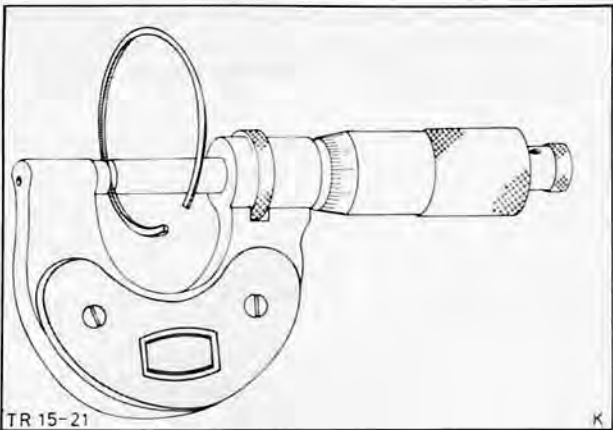

Fig. 48. Measure thickness of compressed soldering wire
33. Remove drive pinion and carefully detach compressed soldering wire from pinion and measure its thickness at two opposing points, Fig. 48. If the values differ, add the two figures together and divide by two. Add this value (e.g. 1,21 mm) to the height of the gauge ring (9,5 mm) giving $9,5+1,21=10,71$ mm in this example. Choose from the available spacers (see Parts Catalogue) a ring of this size.